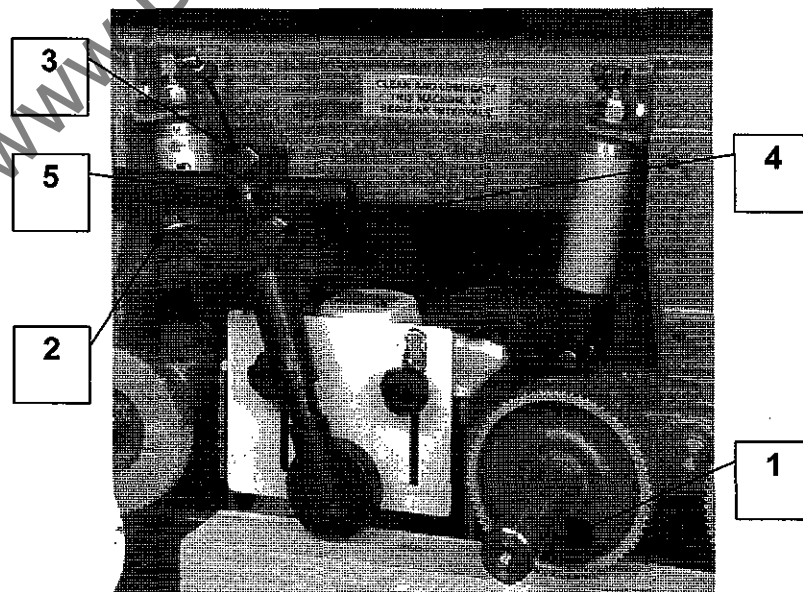

Figure 5.8.1
5.8 Setting the Feed Rolls (Figures 5.8.1, 5.8.2 and 5.8.3)
Positioning Shaft-Mounted Feed Rolls (Figure 5.8.1)
Setting Top Roller Pressure (Figure 5.8.1)